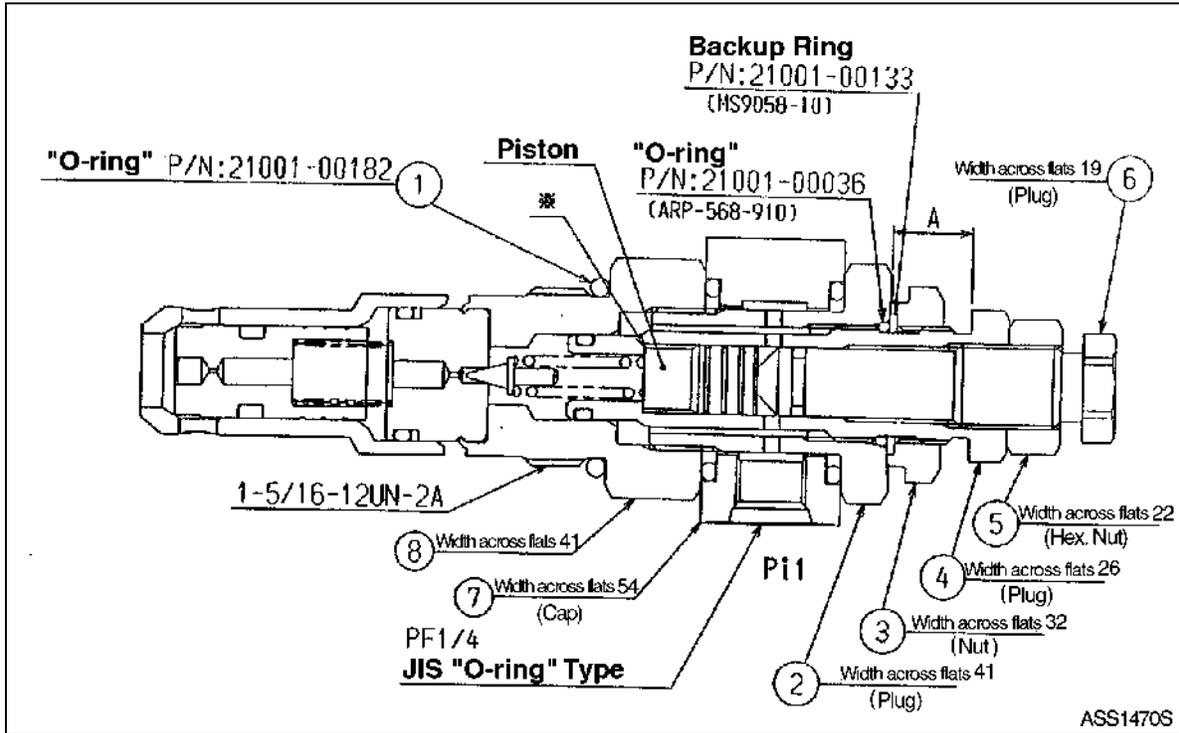

Figure 52 S/N 1001 thru 1050
1. This relief valve should be replaced as an assembly. When replacing it, loosen cap (8, width across flats: 41) and O-ring (1, Figure 52). If oil leaks from nut (3), remove nut (3) and plug (4) and replace O-ring and backup ring.